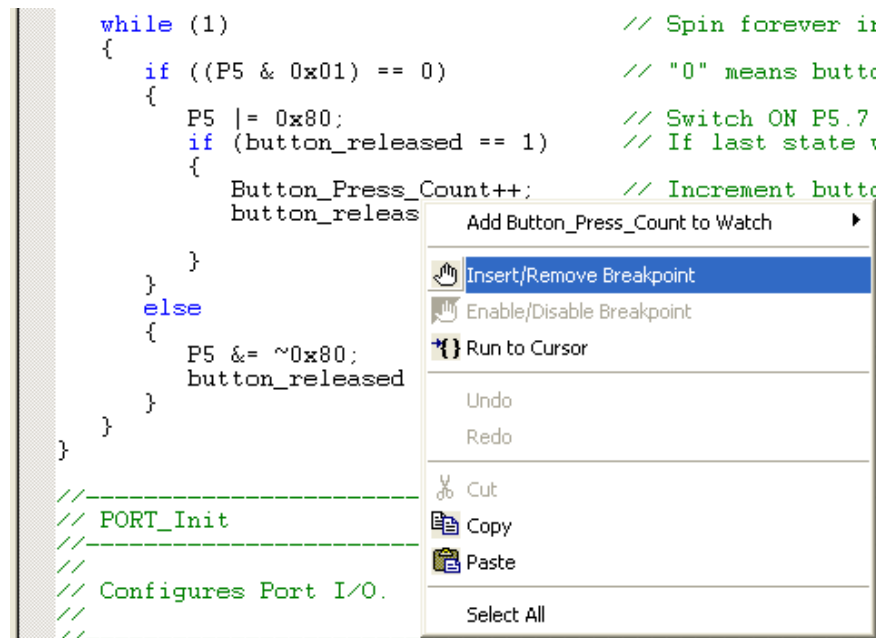
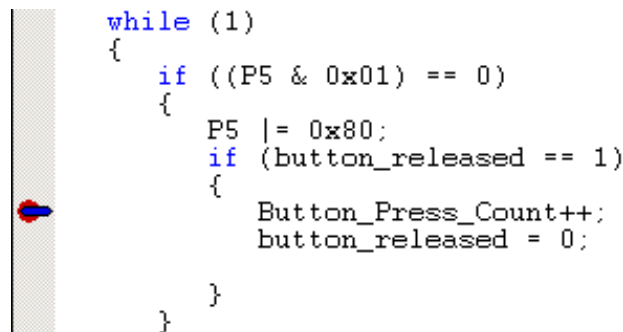

Figure 14. Inserting Breakpoint
Figure 15. Execution Stopped at Breakpoint
2. Scroll to the **main** function (line 69) and right-click on the **Button_Press_Count** variable. In the context menu shown in Figure 14, select **Insert/Remove Breakpoint**. On the left side of the line in the editor window shown in Figure 15, a red circle is added to indicate that a breakpoint has been placed on the source line.